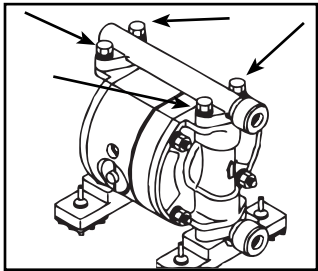

Figure 16
- Remove the retainer bolts from the outlet manifold, and remove the out manifold (See Figure 16). SKU 53JU98 refer to page 14.